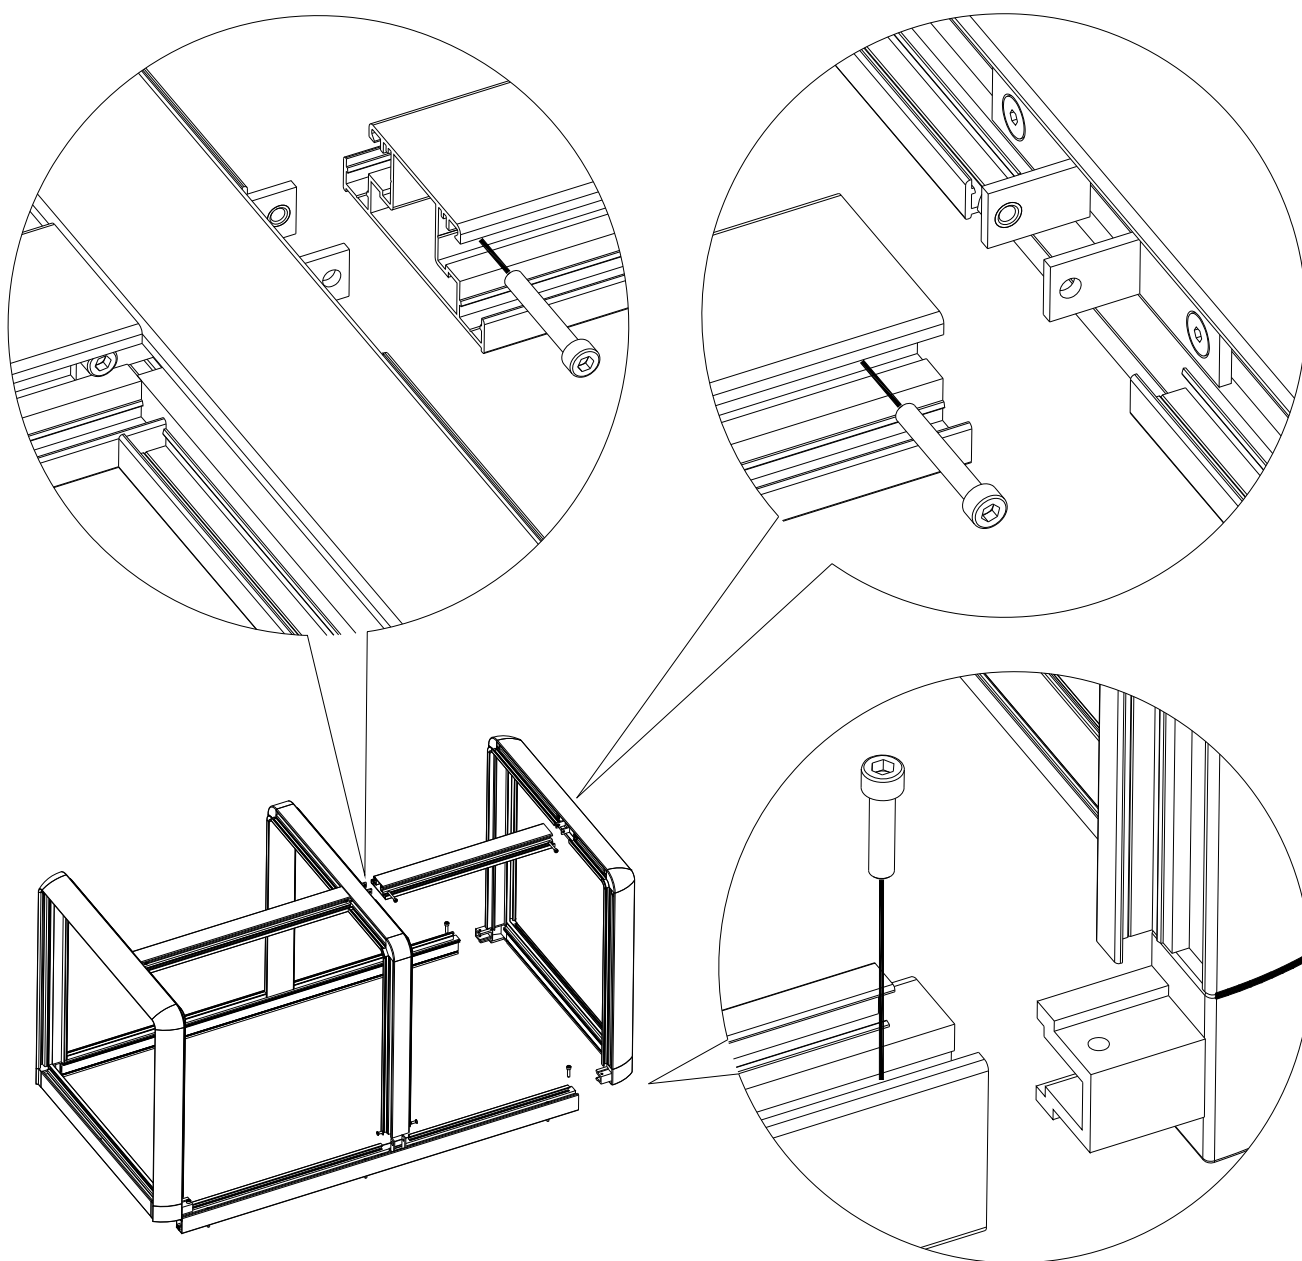

Fig. 33 Exploded view soundshield
- 2 The sound shield canopy can be disassembled according to exploded view below (figure 33)